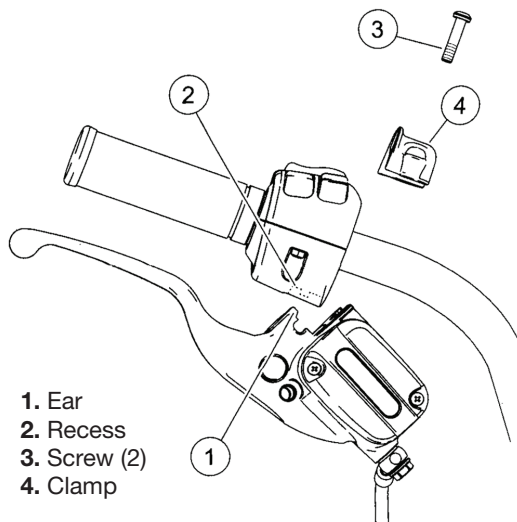
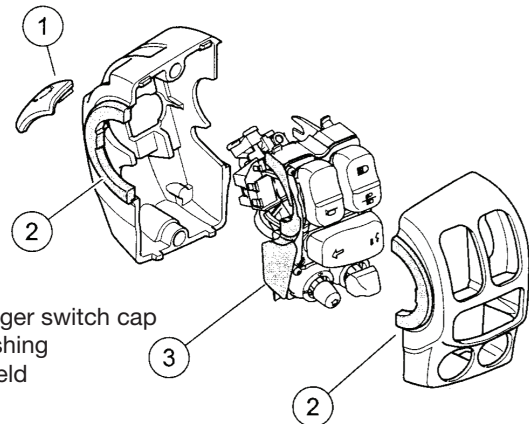

Figure 1 Hand Control Assembly
Figure 2 Switch Pack: Left Side Down
1. See **Figure 1**. Remove the screws (3) and clamp (4). Remove the hand control assembly.
- See **Figure 2**. With a small screwdriver, carefully pry between the trigger finger switch cap and switch plunger.
NOTE: See **Figure 2**. Bushings (2) must be in place to provide proper switch function. If the bushings are missing or damaged, replace the switch housing.
2. See **Figure 2**. Verify that bushings (2) are in place on both switch housings.
NOTE: See **Figure 2**. Shield (3) must be in place to provide proper switch function. If the shield becomes loose during disassembly or assembly, hold the shield in place while installing the switch pack and inner switch housing. Replace the switch pack if the shield is missing or deformed.
6. Install the switch housings. Tighten the screws (5) until snug.
7. See **Figure 1**. Install the brake control assembly. Position for rider comfort.
- a. Engage the ear (1) in recess (2).
- c. Install the clamp (4) and screws (3).
9. Tighten the brake control clamp screws (3) to 72-108 in.-lbs. Again, verify the hand grip rotation and slight end play.
NOTE: See **Figure 2**. The bushings (2) must be in place to provide proper switch function. If bushings are missing or damaged, replace the switch housing.
2. See **Figure 2**. Verify that the bushings (2) are in place on both switch housings.
NOTE: See **Figure 2**. The shield (3) must be in place to provide proper switch function. If the shield becomes loose during disassembly or assembly, hold the shield in place while installing the switch pack and inner switch housing. Replace the switch pack if the shield is missing or deformed.
7. See **Figure 1**. Install the clutch control assembly. Position for rider comfort.
10. See **Figure 2**. Slide the trigger finger switch cap (1) until it clicks into place.